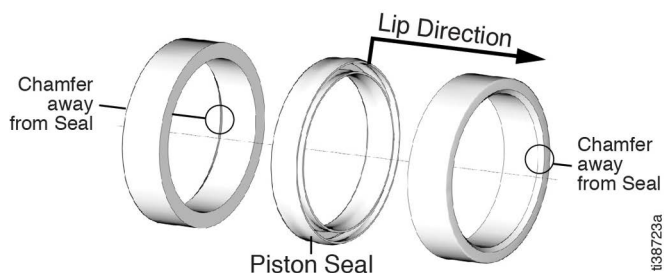

FIG. 26
- The chamfer on the seal back-up ring must be pointing away from the seal (FIG. 26).